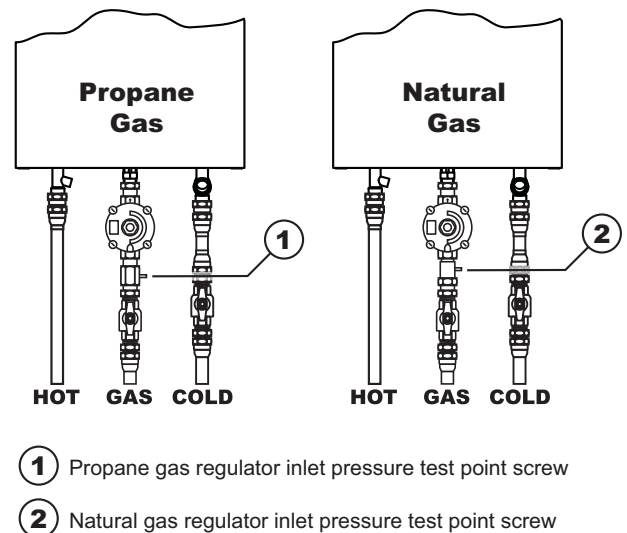

Figure 4.
5. Isolate gas and water supplies. Remove test point screw located on the regulator inlet pressure test point and attach pressure gauge Figure 4.